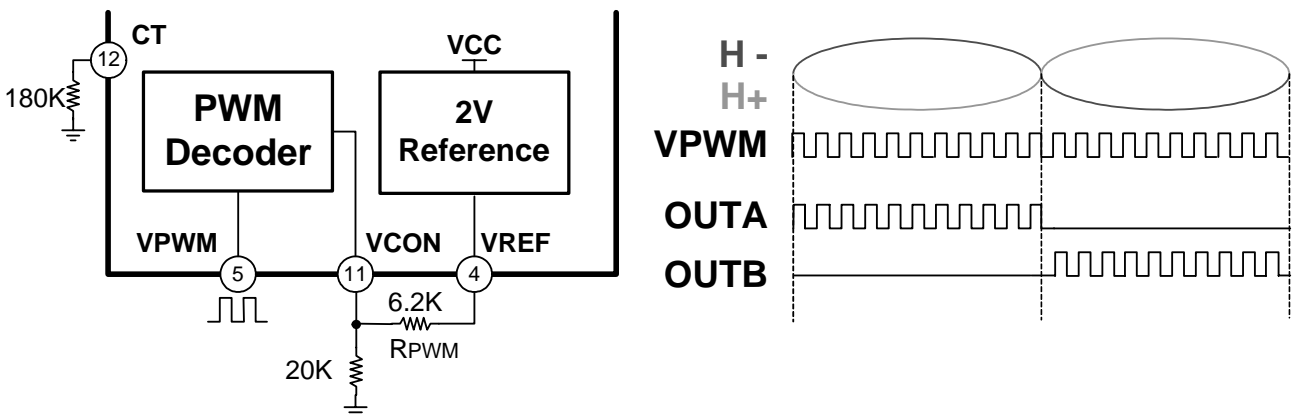

Figure 6. Interface and it's Related Waveforms Scheme3
This scheme indicates that digital PWM input signal becomes directly output PWM signal. In other word, frequency and duty of output PWM driving signal is the same as this digital PWM input. In case input PWM frequency is very low, active filter needs large value of capacitor to make speed control voltage in scheme 2. This scheme dosen't need filter capacitor and has good input/output characteristics. This means that there is no deadband and output signals are synchronized with input VPWM signal as shown in figure6.
When the rotor is locked, there is no change in input signal of hall amplifier and thus a internal TZERO pulse is not observed. A capacitor (CLD) connected LD pin is continually charged by internal current source (iLDC) to the internal threshold (VLDCL) resulting from no Tzero pulse. When the voltage, VCLD on LD pin, reaches VLDCL, high side output power TR is turned-off to protect motor during TOFF and the alarm output (AL) becomes floating high. When the VCLD reaches upper threshold, VLDCL, VCLD starts to decrease with internal current sink (iLDD) to the low threshold, VLDCL. At that time, the VCLD ramps up again and one of two outputs is turned on depending on locked rotor position during TON. The charging and discharging repeat until locked condition is removed, or FAN8460MTC/FAN8460MP is powered down. The overall time chart is shown in figure.6. The auto- retry time (TON), the motor protection time (TOFF) and the locked rotor detection time (TLOCK) are proportional to external capacitor, CLD. Each value can be calculated as follows;